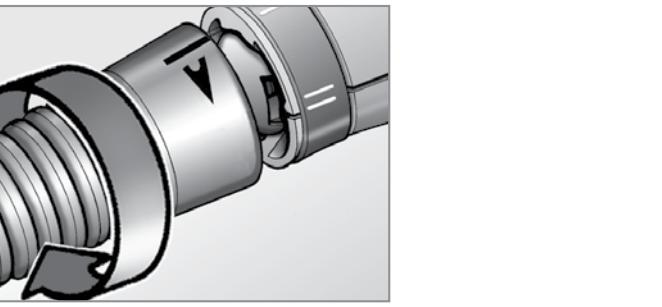

Fig. 2
a) slide the accessory as far as the stop so that the nozzle reference slot and the yellow slot on the appliance meet up (Figure 2);
The appliance is provided with an articulated joint which allows the jet of steam to be directed as desired: insert the straight nozzle until it covers the black round gasket. Bring the nozzle reference line to meet the yellow slot on the appliance (Figure 2).